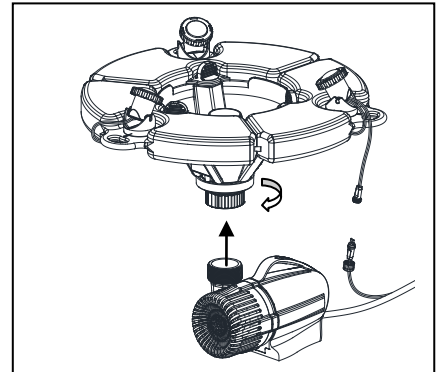

Fig. 1
1. Remove assembled fountain from packaging and connect pump to floating attachment assembly by screw the nut on floating attachment assembly to the outlet of pump. Fig. 1